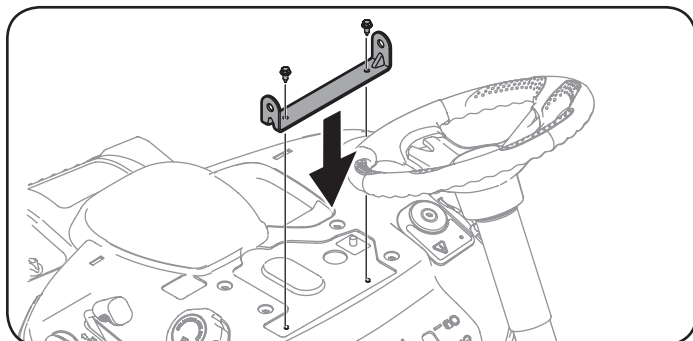

Figure 7
3. Align the seat bracket in place over the holes from where the self-tapping screws were removed, as shown in Figure 7.
4. Using a 1/4-inch drive ratchet with a 3/8" socket, secure the seat bracket with the self-tapping screws removed in Step 2. See Figure 7.